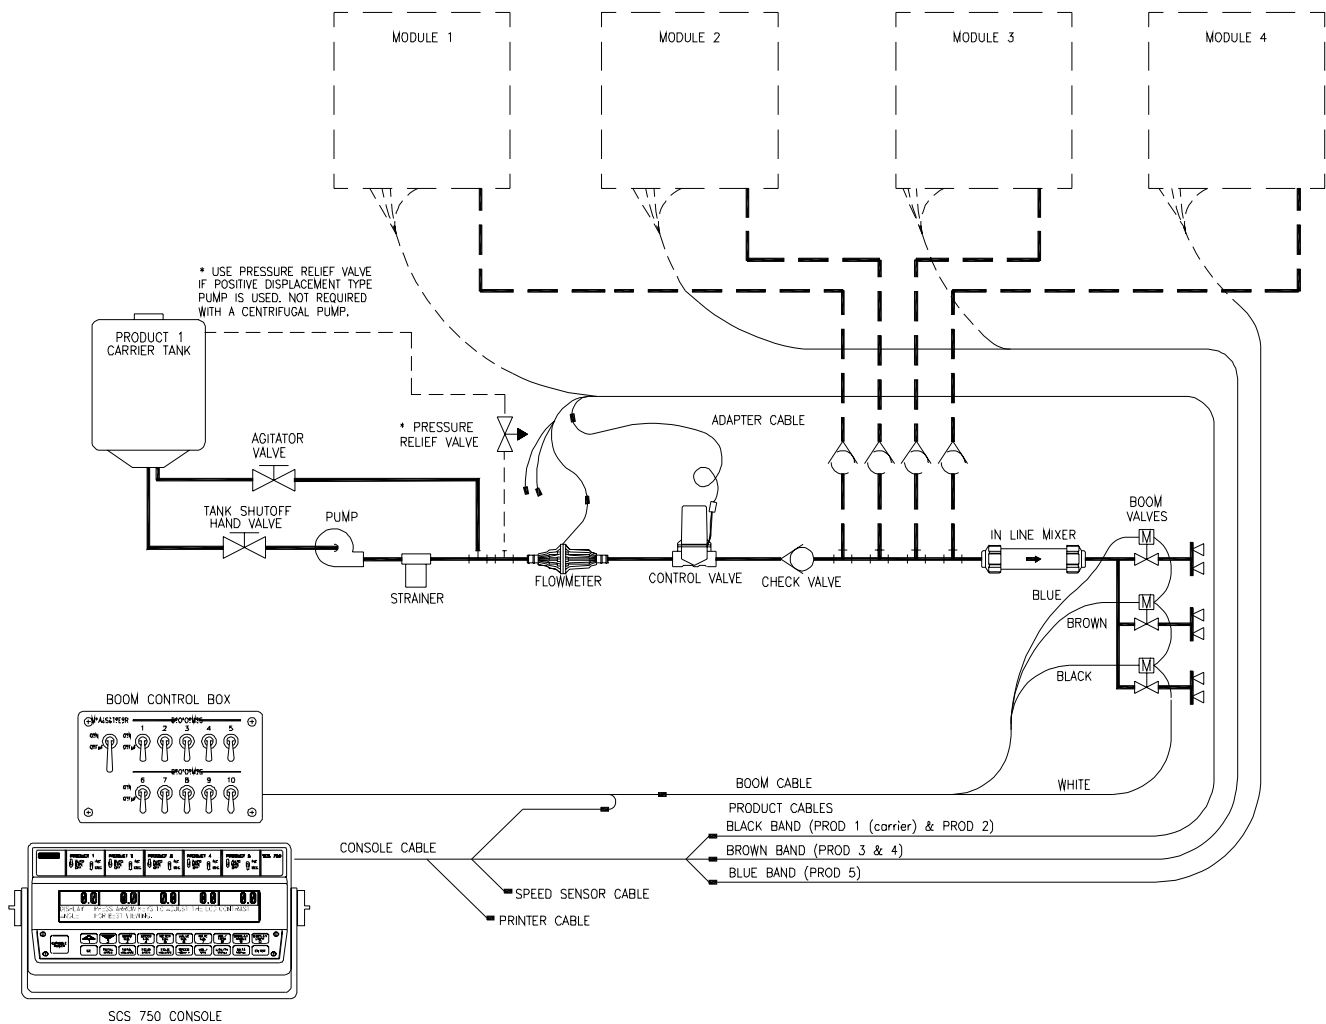

FIGURE 4
- 1) Mount Flow Meter in the area of the boom valves per Figure 4. All flow through Flow Meter must go to booms only, i.e., no return line to tank or pump after Flow Meter.
- 3) Install 21 ft. Product Cable to the connectors on the Injection Modules (Product 1 -White; Product 2 -Black). Secure with plastic cable ties. (See Figures 4 & 5).